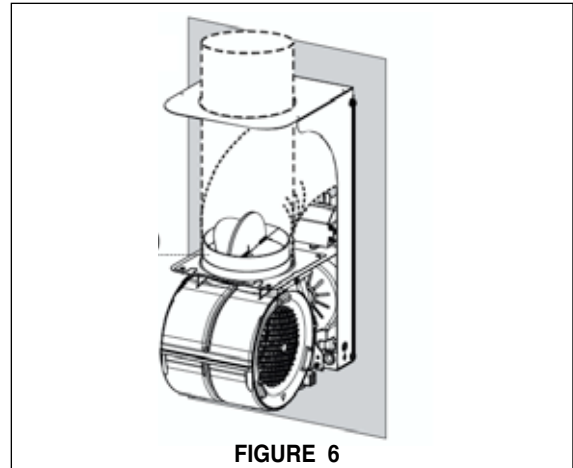

FIGURE 6
1. The Cyindra hood offers flexibility in ducting. See (FIGURE 6), using 6" rigid metal ducting, the hood can be ducted straight up or with an elbow to the back of the hood at the 6 7/8" tall x 6 11/16" wide opening next to the wall.